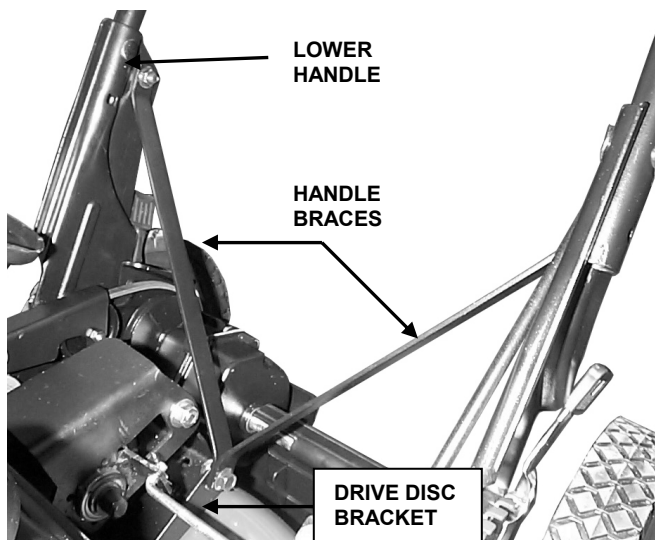

FIGURE 6
STEP 5: Install handle braces between lower handles and drive disc bracket on back of mower deck. See Figure 6. Align top hole of each brace with slotted hole in top portion of each lower handle, and secure with 5/16-18 x 3/4" hex washer head bolt and flange nut. Align hole in bottom of both braces with hole in rear of drive disc bracket, securing with same hardware as above. Tighten securely. NOTE: Attach bottom of both braces to outside of drive disc bracket.